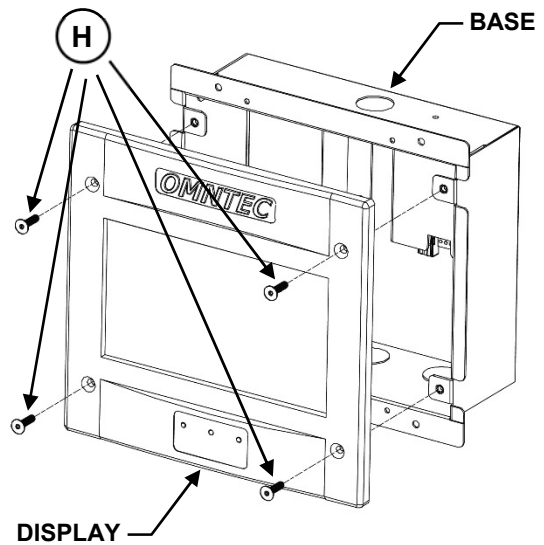

Figure 2.0
13. Place display back onto the base and secure with the four Allen screws (**H**) (See Figure 2.0).